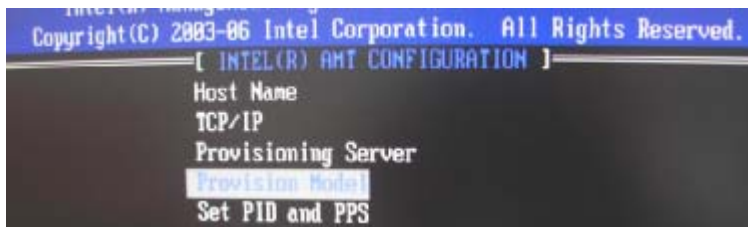

Figure 6-6: Provision Model
Step 9: Select Provision Model and press Enter. (Figure 6-6)